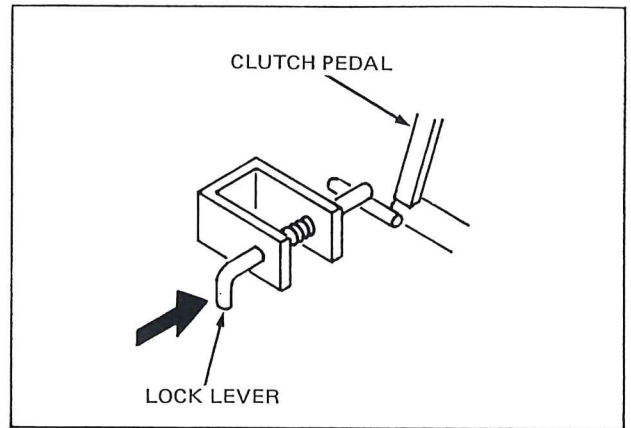

Figure 73 — Setting the Lock Lever of Clutch Pedal
10. Set the lock lever after depressing the clutch pedal completely to separate the clutch disc from the fly wheel, Figure 73.
5. Disengage the lock lever of clutch pedal by depressing the clutch pedal, Figure 73.